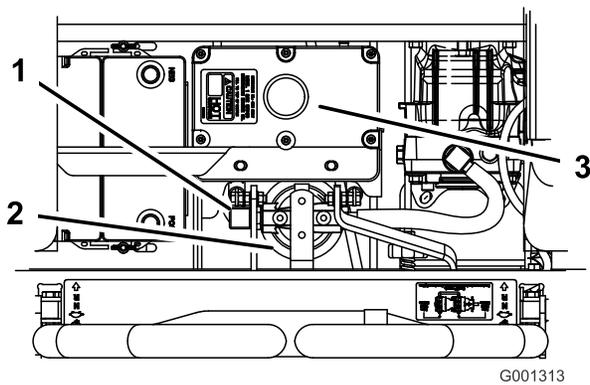

Figure 99
- Remove the right hydraulic line that comes into the adapter (Figure 99).
- Install the right hydraulic line to the adapter (Figure 99).